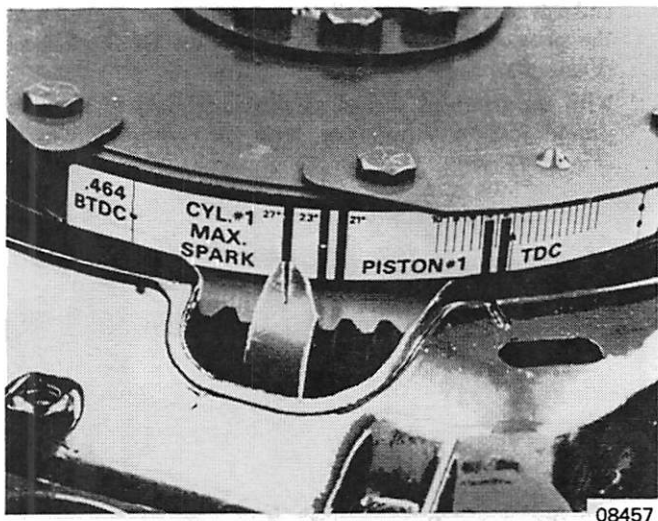

Figure 5. Timing Pointer in Line with Maximum Spark Advance Specification
1. With Timing Light (C-91-35507A1) installed, turn ignition key to "On" position, if using remote starter switch, or start engine if in a test tank. Hold timing light in line with timing pointer and advance throttle until timing pointer is aligned with maximum spark advance specification on flywheel decal. (Figure 5)